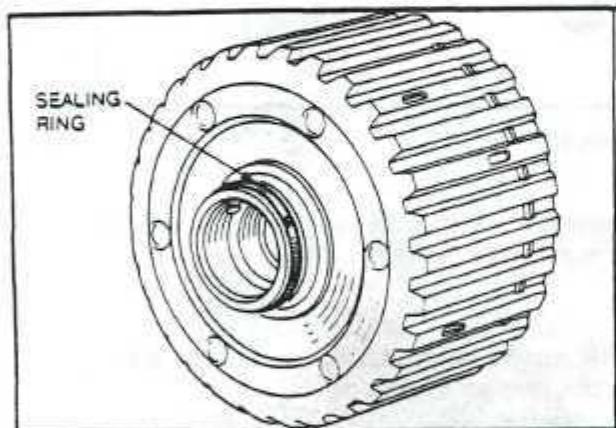

Fig. 59 CLUTCH C-1 HUB SEAL
7. Remove the external sealing ring from the clutch housing by compressing one side of the locking tab to release the lock. *Fig. 59*
10. Fit the new external sealing ring to the clutch housing hub. Ensure that the ring locks are properly fastened. *Fig. 59*